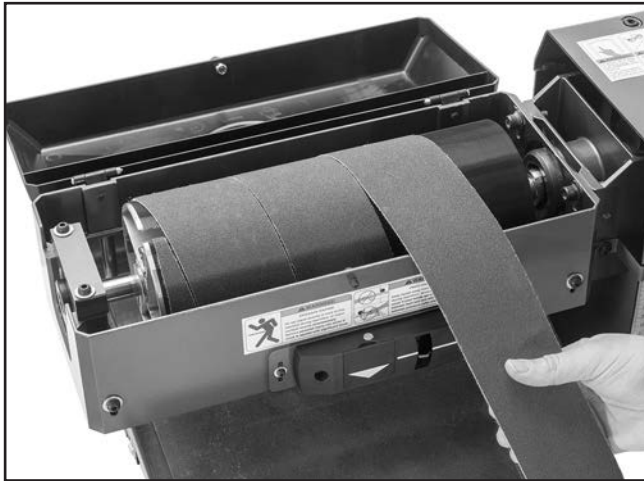

Figure 18. Wrapping sandpaper around drum.
8. Wrap sandpaper around drum (see **Figure 18**), ensuring there are no bubbles or overlapping edges.